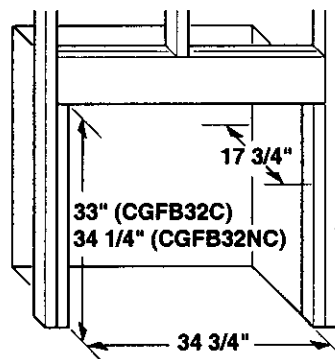
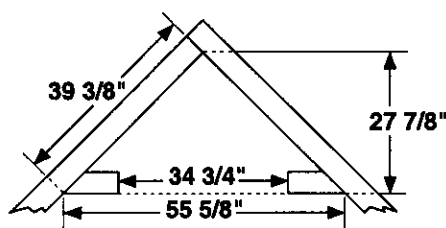

Figure 17 - Rough Opening for Installing in Wall
Figure 18 - Rough Opening for Installing in Corner
1. Frame in rough opening. Use dimensions shown in Figure 17 for the rough opening. If installing in a corner, use dimensions shown in Figure 18 for the rough opening. The height is 33" (CGFB32C) or 34 1/4" (CGFB32NC), which is the same as the wall opening in Figure 17.